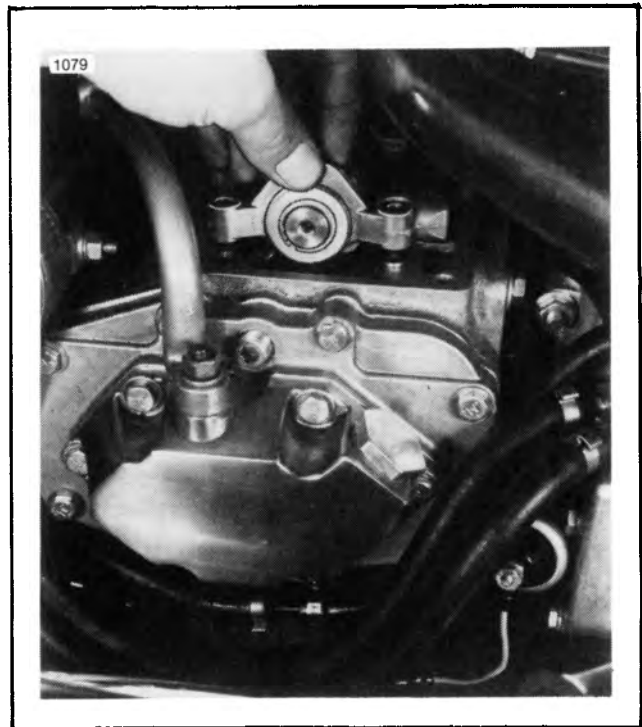

Figure 7-7. Shifter Cam Locating Dowel Pin
6. See Figure 7-7. Place shifter cam assembly on transmission case with shifter forks positioned in the slots. The transmission case has dowel pins which fit into the mounting holes of the right support block. Align the cam assembly by securing the right support block and tighten all bolts to 7-9 ft-lbs torque. Check the left support block to see that it is not cocked and does not bind on its bearing.